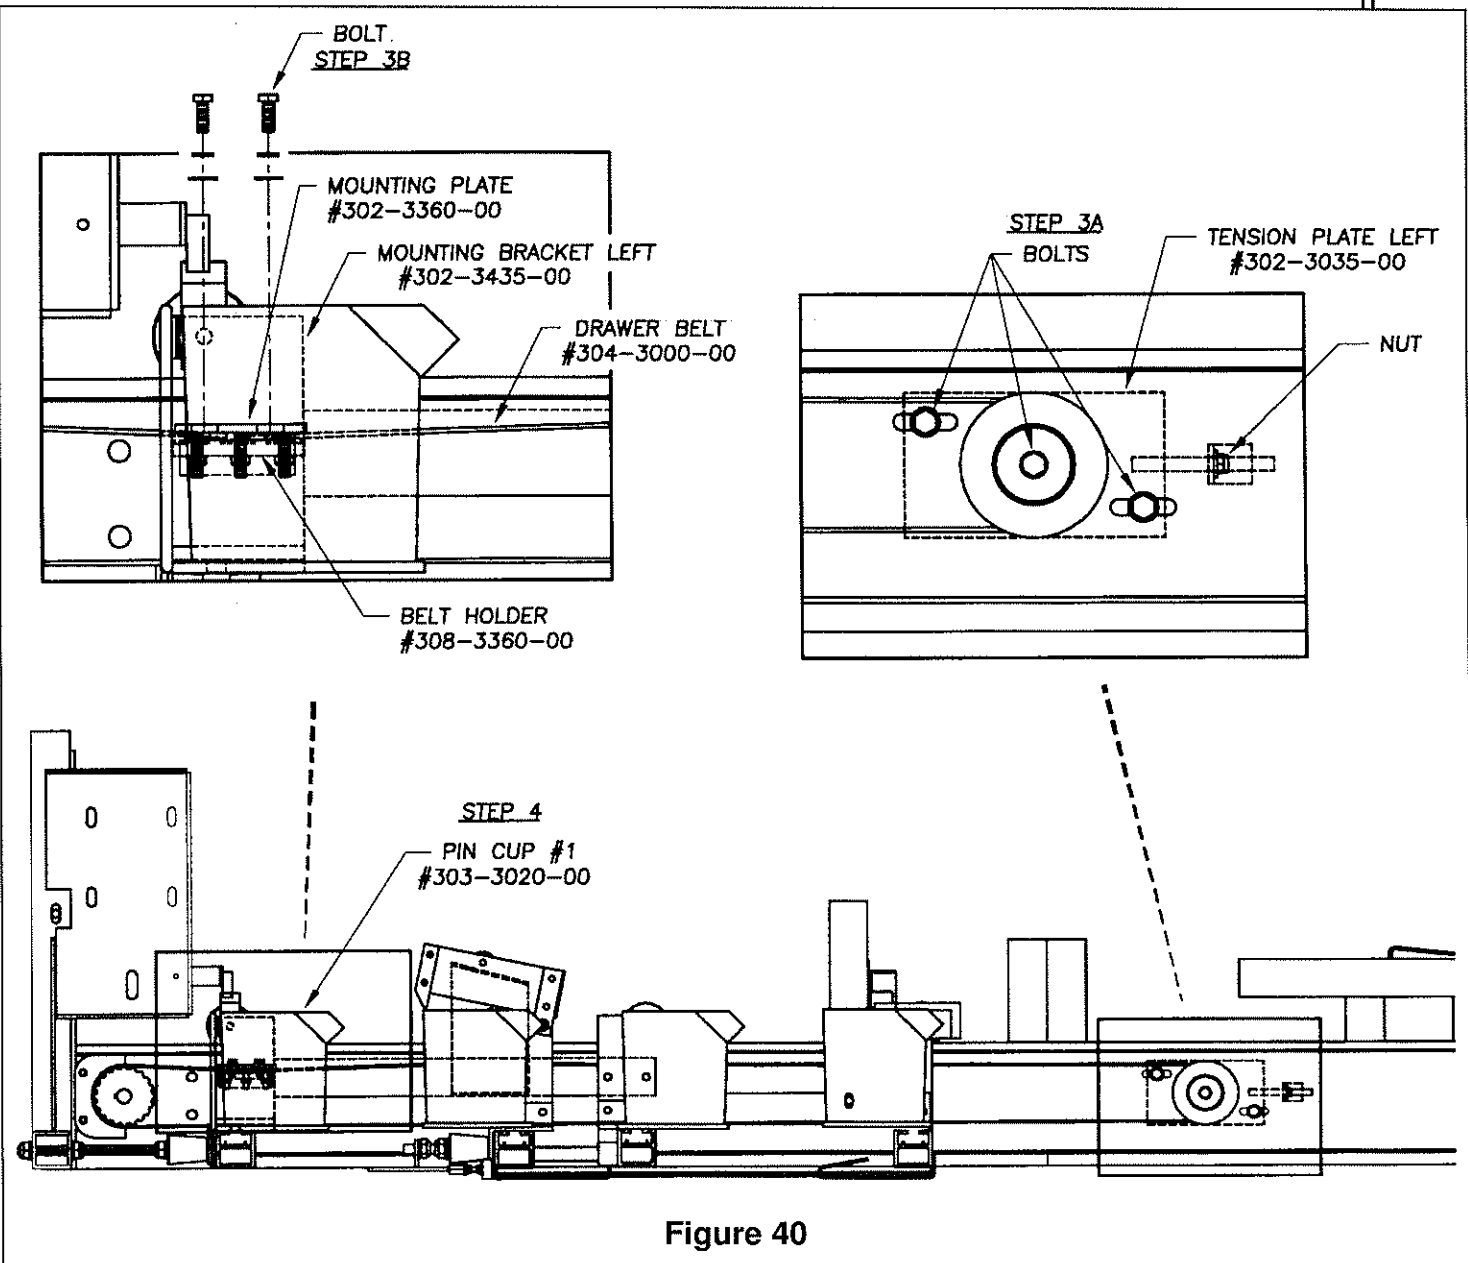

Figure 40
3. Remove the tension on the drawer's belt. To do so loosen the four bolts which hold the left (302-3035-00) and right (302-3030-00) tension plates in place and also by loosening the two nuts as indicated in Figure 40. Remove the two bolts which hold the mounting plate (302-3360-00) in place as shown in Figure 40. Do not remove the mounting plate since doing so will cause the drawer belt to be separated.
Using the belt tension tool (Z-ME4300) apply a force of 5lbs (2.25kg) on the plunger and perpendicular to the belt span. Measure the recession depth and compare it to Table 4 on page 72. If the recession depth is greater, you must tighten the belt and if the recession is less, you must loosen the belt. Loosen the left (302-3035-00) and/or right (302-3030-00) tension plate and then use the nut to increase or decrease tension. (Figure 40)